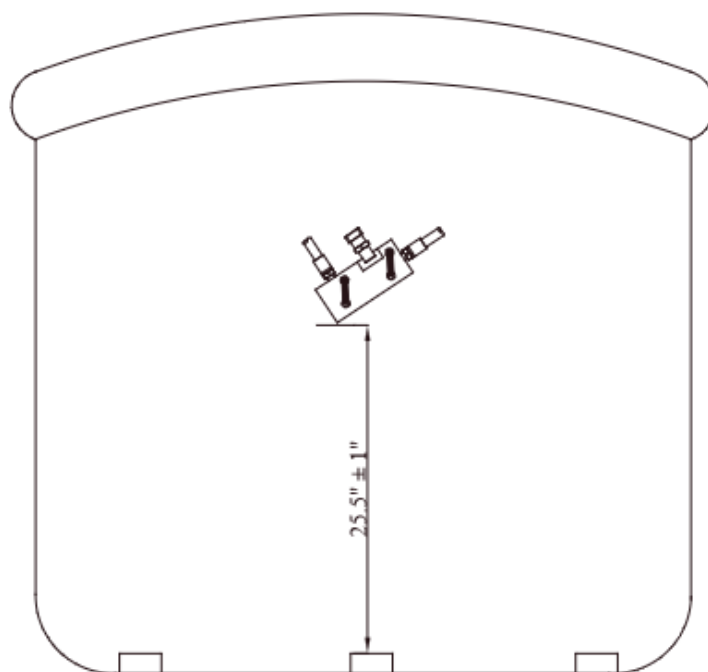

Figure 8
- _____ 8. **Position** the manifold block so that the fuel hoses make smooth bends to the tank valves (the smooth bends in the hoses provide excess hose length. The extra hose length is necessary to protect the fuel system from damage due to basket flexing caused by high impact). Mark the location for the block. See figure 8.